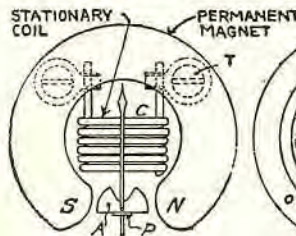

Fig. 16
The principle of its operation is shown in Figs. 16 and 17. A piece of soft iron, rigidly attached to a steel pivot placed equally distant from the poles of a permanent magnet, is attracted or repelled by the passing of an electric current in one direction through the coil of wire (C) fixed or stationary in the plane of the iron. The magnet, being of the permanent-magnet type, holds the piece of iron (called the armature) exactly in position, so that the pointer attached to the pivot is held at zero.
This type of indicator is termed the "polarized vane" type, with a "stationary coil" (of a principle similar to that shown in Fig. 16).